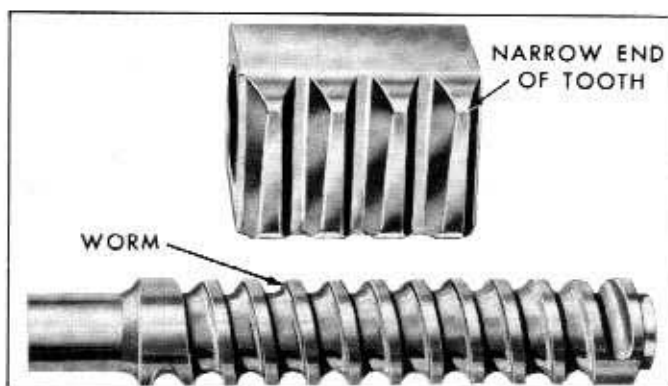

Fig. 5-14—Relation of Ball Nut to Worm—Typical—(60C-1220)
4. Slide the ball nut over the worm, keeping the position of the two parts related as shown in figures 5-14 and 5-15.